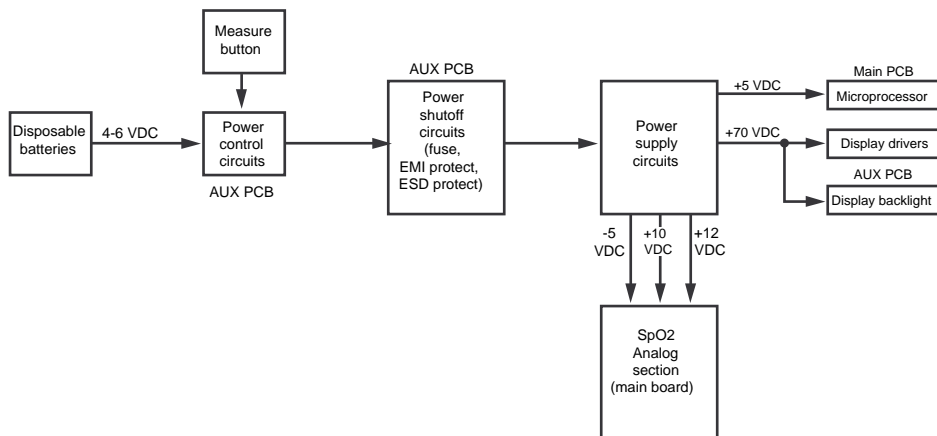

Figure 9-5: Power Supply Block Diagram
9.6.2 Power Supply Block Diagram (Figure 9-5)
Power supply circuitry (Figure 9-5) is located on the auxiliary PCB and consists of four subsections: